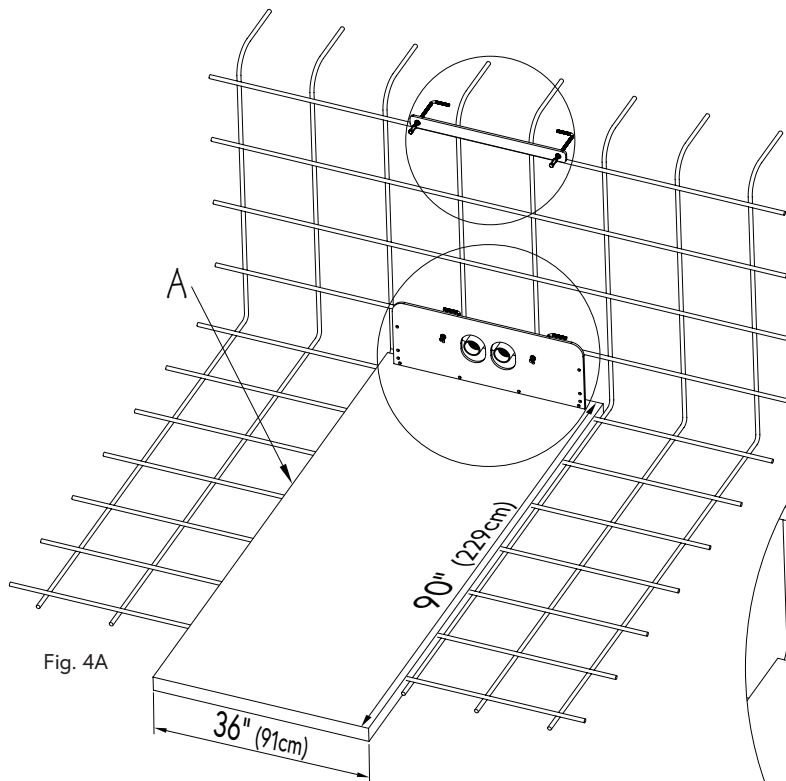

Fig. 4A
2. To ensure the Fastlane® Tread Mounting Kit is positioned at the correct height, it is recommended to pour a level concrete slab (A) in front of the wall in which the Fastlane Tread will be mounted. This will serve as the finished floor. (Fig. 4A).